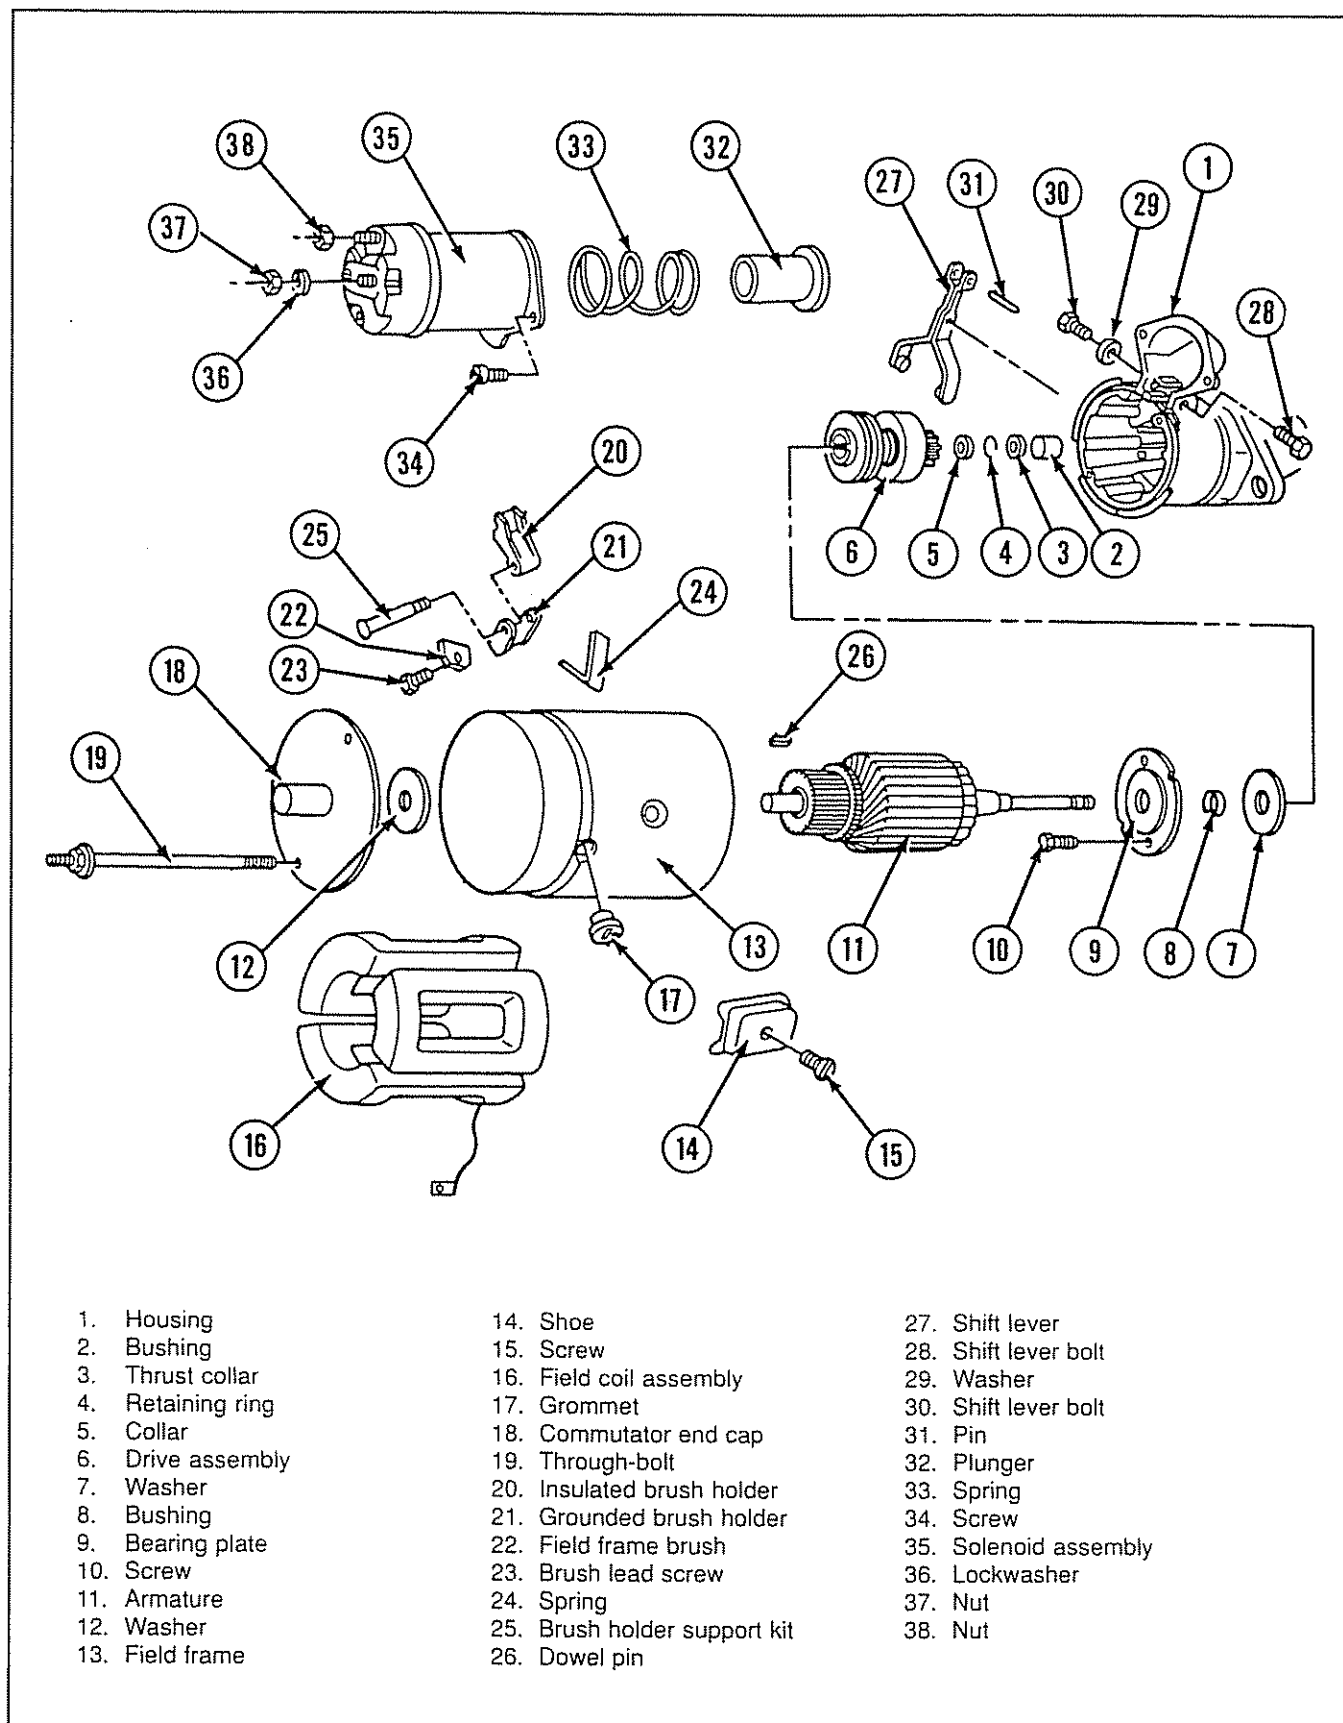

Figure 6-1. Starter Motor
6. Slide thrust collar off armature shaft (see Figure 6-1).